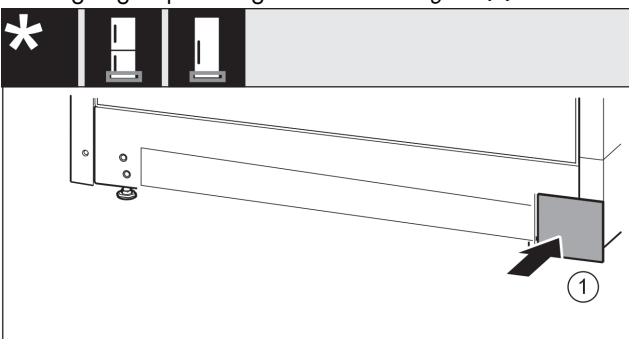

Fig. 16
- ▶ Put back the cover on the other side. Fig. 16 (1)